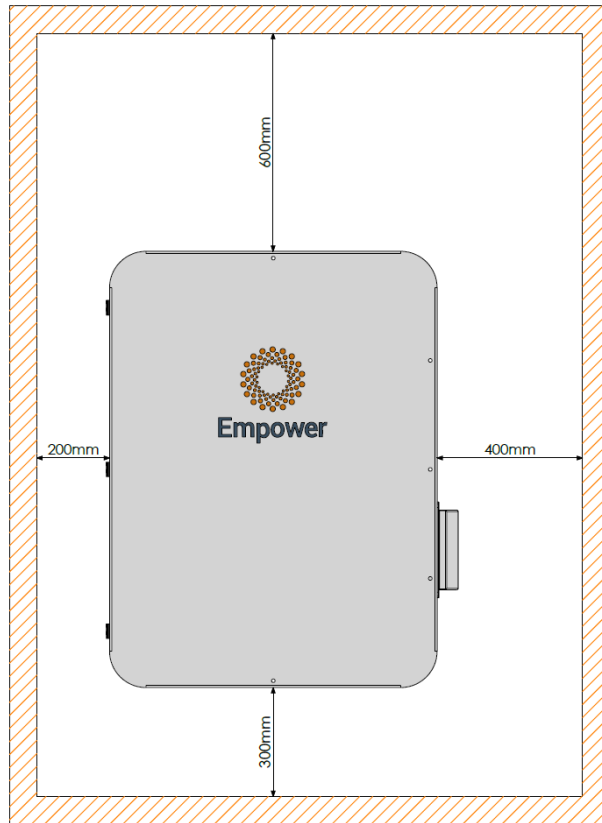

Figure 3 - Required clearance space around the ElektroBank 14
- Ensure there are no obstructions (to ensure adequate heat dissipation and to simplify connections) inside the dimensions from Figure 3, including, but not limited to: